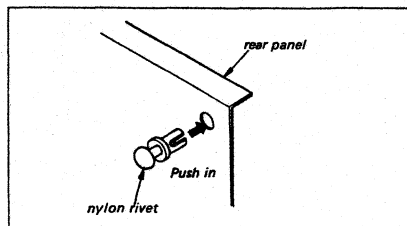

Fig. 2-10. Nylon rivet installation
3. To reinstall the rivet, insert the flared part into the opening first, and push the head as far as it goes as shown in Fig. 2-10.